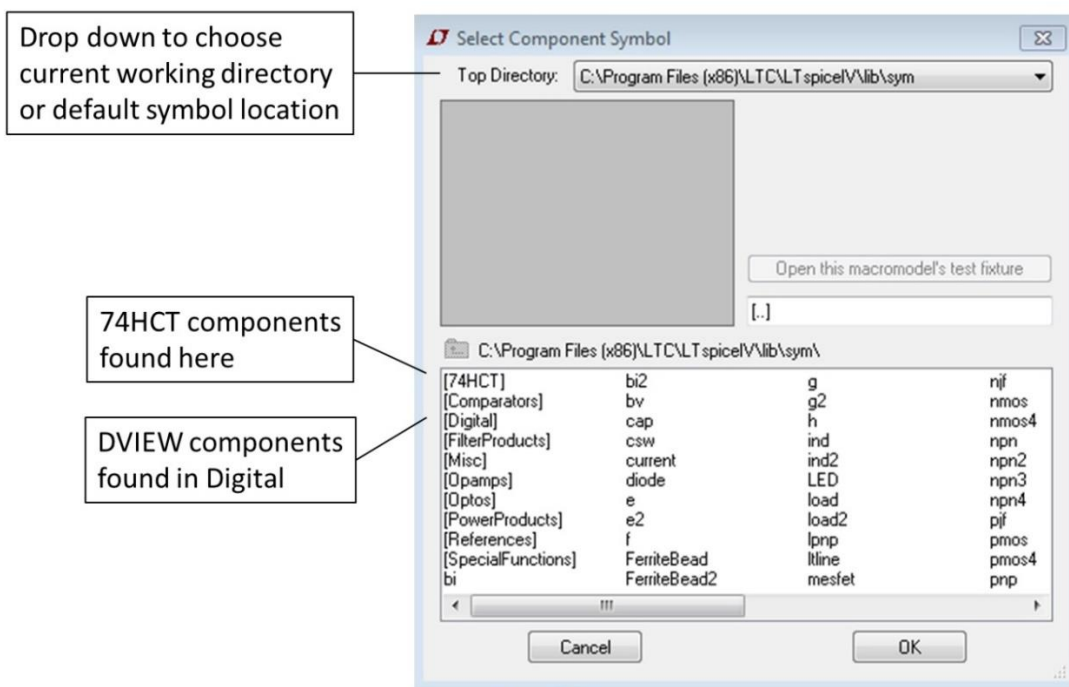

Figure 3.2: Window that pops up when the **Component** button is pressed.
- **Component** – Allows a component to be chosen and placed in the circuit. When this button is clicked, the window shown in Figure 3.2 appears. It is possible to choose between the default symbol location, and the current working directory, as places to look for component files. If the 74HCT and DVIEW libraries were set up as discussed in Section 2.1, then the relevant components can be found in the locations indicated in Figure 3.2. Otherwise, they will be found in the current working directory. In addition to the **Component** button, there are also toolbar buttons that allow resistors, capacitors, inductors, diodes and ground to be quickly selected and placed.
The resistor, diode and ground components can be quickly selected from buttons in the toolbar, as shown in Figure 3.2. Right-clicking on the Voltage and Resistor components will allow their values to be changed. The **DC Value** field of the Voltage source should be set to 9V.